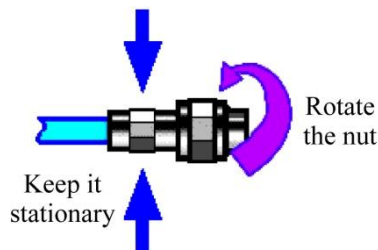

Figure 3.5: Connection Method
Step 2. As shown in Figure 3.5, move the two connectors straight together so that they can be smoothly joined. Rotate the threaded sleeve of the connector (rather than the connector itself) until it is tightened. During the connection, there shall be no relative rotational movement between the connectors.